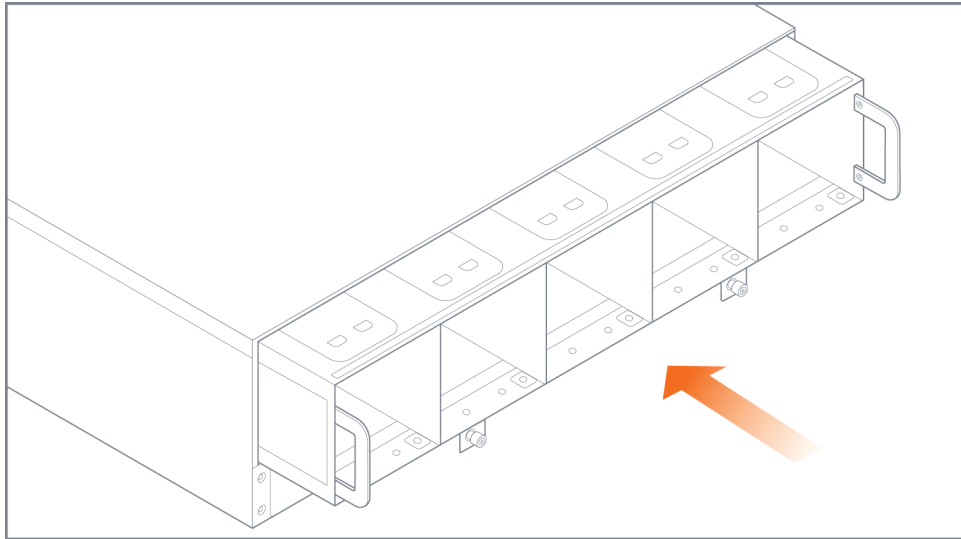

Figure 4-12: Fan Tray Insertion
2. Place the empty fan tray into the slot and slide it in. Refer to Figure 4-12 on page 80.